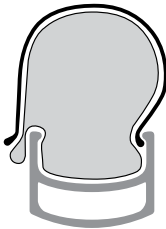

Figure 16. Do not pinch the inner tube between the tire and the rim.
6. Push the second bead into the rim. Start at the valve stem. Be careful not to pinch the inner tube between the rim and the tire (Figure 16) when you install the tire.